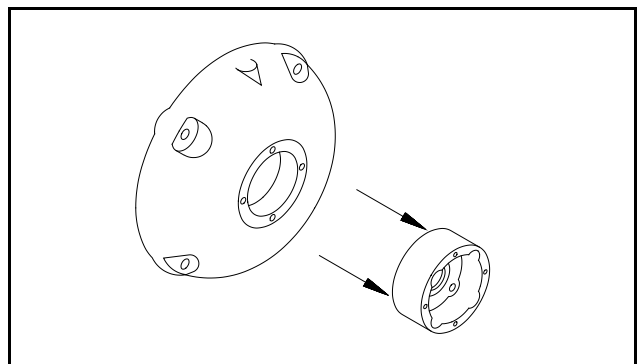

Figure 15. Remove the adapter
- 8.3.1 Remove the four screws that fasten the adapter to the new end plate and remove the adapter. See Figure 15.